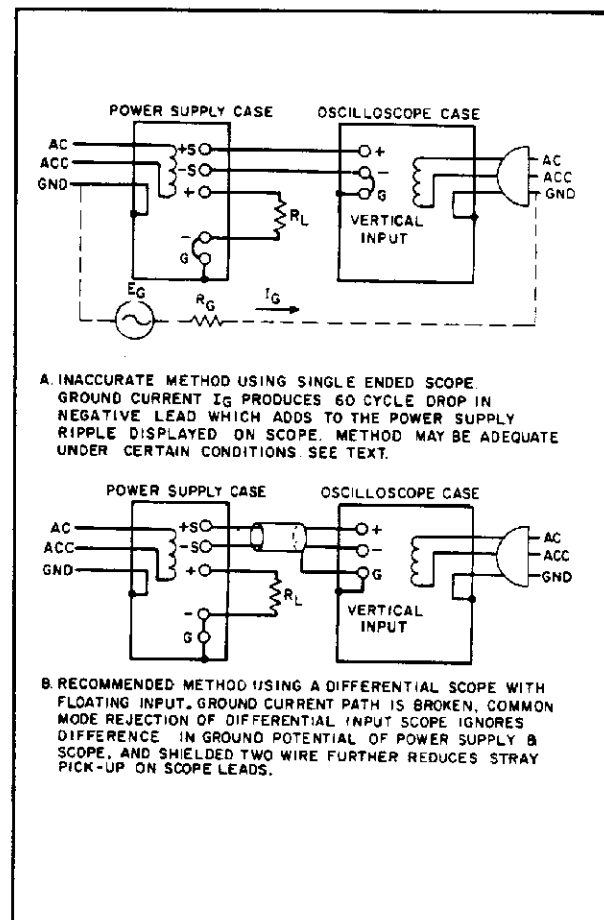

Figure 5-2. Ripple Test Setup
**5-22** The same ground current and pickup problems can exist if an rms voltmeter is substituted for the oscilloscope in Figure 5-2. However, the oscilloscope display, unlike the true-rms meter reading, tells the observer immediately whether the fundamental period of the signal displayed is 8.3 milliseconds (1/120Hz) or 16.7 milliseconds (1/60Hz). Since the fundamental ripple frequency present on the output of an HP supply is 120Hz (due to full-wave rectification), an oscilloscope display showing a 120Hz fundamental component indicates a "clean" measurement setup, while the presence of a 60Hz fundamental usually means that an improved setup will result in a more accurate (and lower) value of measured ripple.